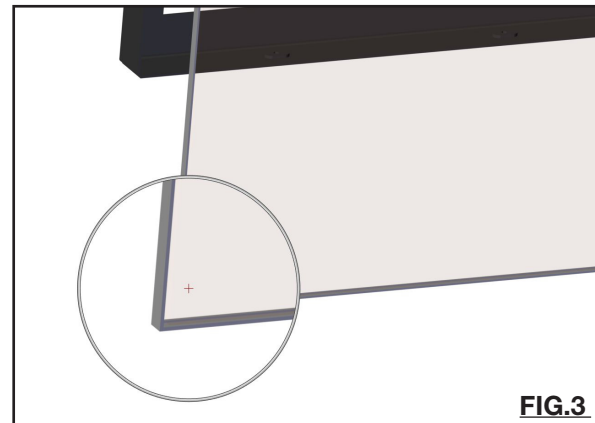

FIG.3
- E. Center and apply gasket to the edge of glass. Ensure gasket is a continuous loop around the perimeter of the replacement glass. **(FIG. 3)**
- C.** Remove screws from lower side brackets and remove the side upper panels (**FIG.3**)
- D.** Slide top panel into smoke chamber and install the 4 brackets removed in Step C. (**FIG.3**)